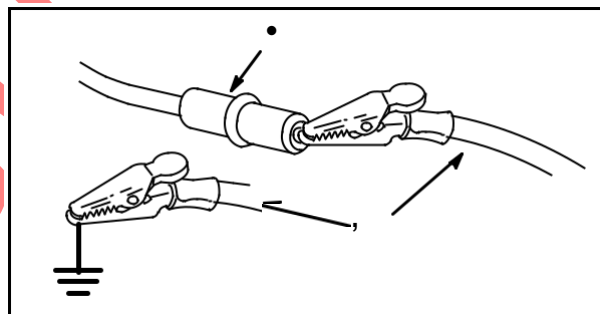

Fig. 15
Activate idle down device, or ground BLUE wire (1) from control module using a jumper wire (2), **Fig. 15**.